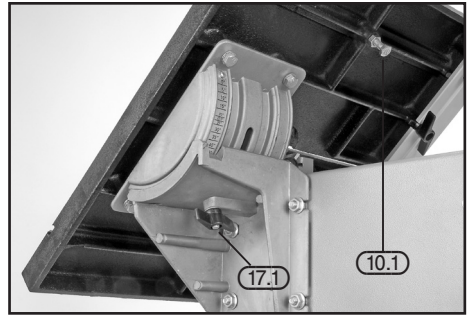

FIG. 2
8.2 LEVELLING THE TABLE – FIG. 2